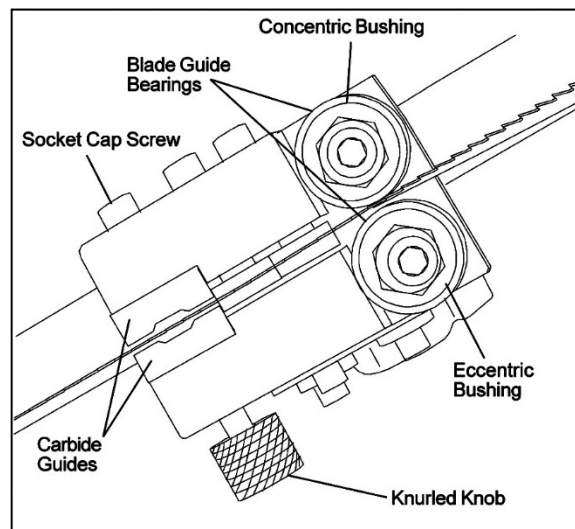

Figure 10
5. Loosen the center locking screws in all three hex adjustment screws on blade tensioning mechanism (see Figure 10).
8. Adjust blade-edge bearings so they just touch the back edge of blade (see Figure 10).